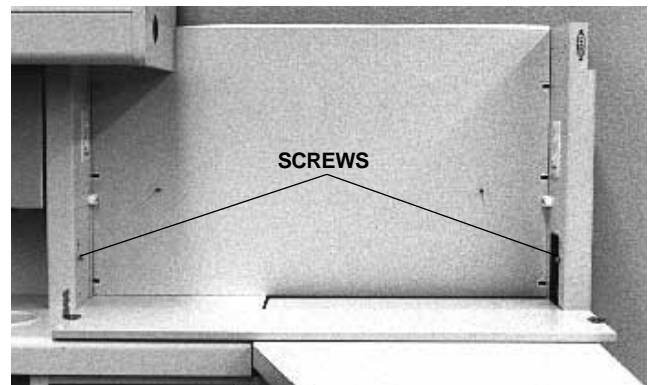

FIGURE 22
2. Install a screw in the bottom tapped hole on the upper module column and the outer column (see *Figure 22*).